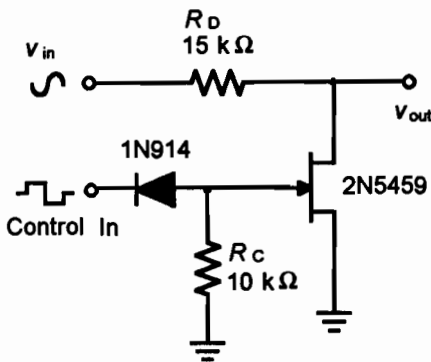

Figure 37.2
4. Remove circuit power and the signal generator. Modify your circuit to that of Figure 37.2.
3. Notice that the circuit of Figure 37.2 resembles in some respects the shunt diode clipper. Compare and contrast the JFET chopper and the shunt diode clipper.